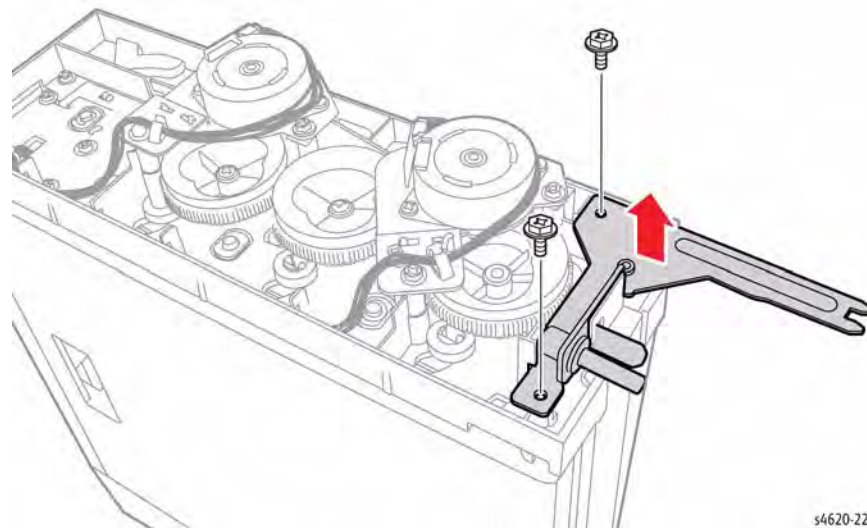

Figure 2 Remove the exit gate bracket
6. Remove 2 (plastic) screws that secure the mounting bracket, Figure 2.